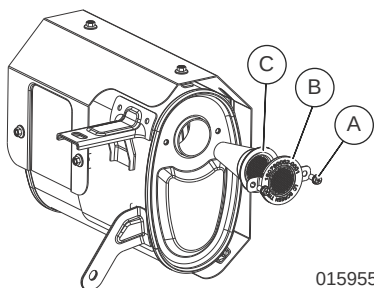

Figure 4-6. Spark Arrester Screen
1. See **Figure 4-6**. Loosen and remove screws (A).
2. Inspect screen (B) and replace if torn, perforated or otherwise damaged. If screen is not damaged, clean with commercial solvent.
3. Replace spark arrester cone (C) and screen (B). Secure with screws.